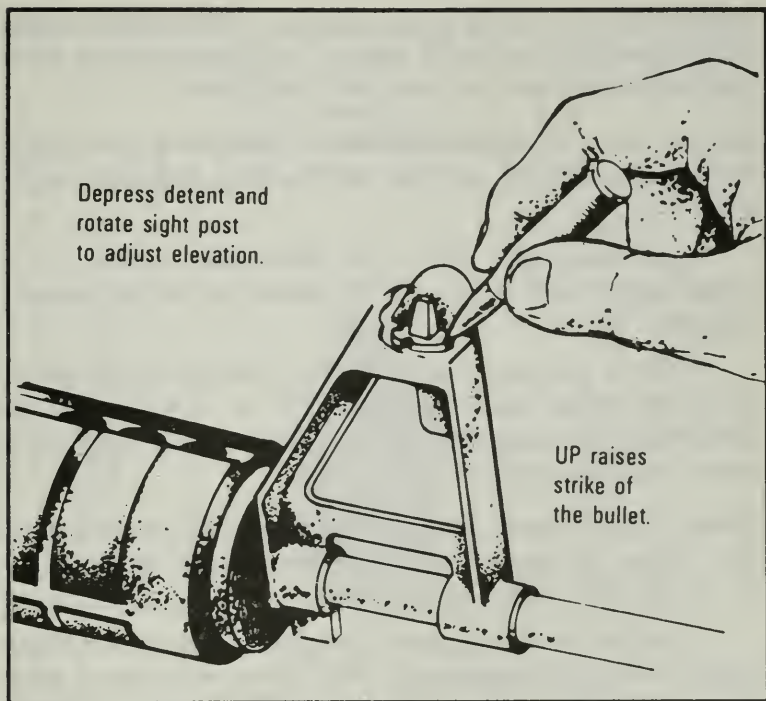

Figure 111. Depress detent.
b. Front sight. To adjust elevation, depress the detent and rotate the sight post (Figure 111). To raise the strike of the round, rotate the sight post in the direction of the arrow marked UP. Reverse the direction of rotation to lower the strike.